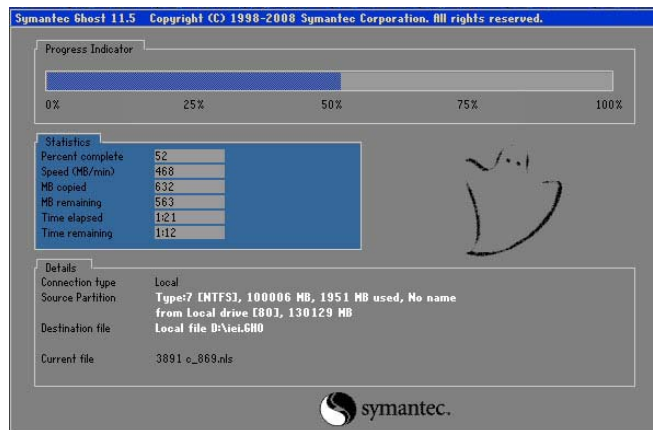

Figure B-27: Image Creation Complete
Step 7: The Symantec Ghost starts to create the factory default image (Figure B-27).